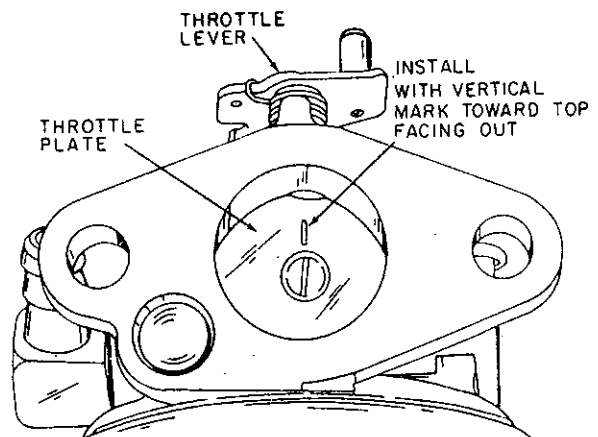

Figure 6
- (1) THROTTLE. Examine the throttle lever and plate prior to disassembly. Replace any worn parts.
- a. Remove the screw in the center of the throttle plate and pull out the throttle shaft lever assembly (Figure 6).
- b. When reassembling, it is important that the lines on the throttle plate (Figure 6) are facing out when in the closed position. Position throttle plate as before disassembly. The throttle shaft must be held in tight to the bottom bearing to